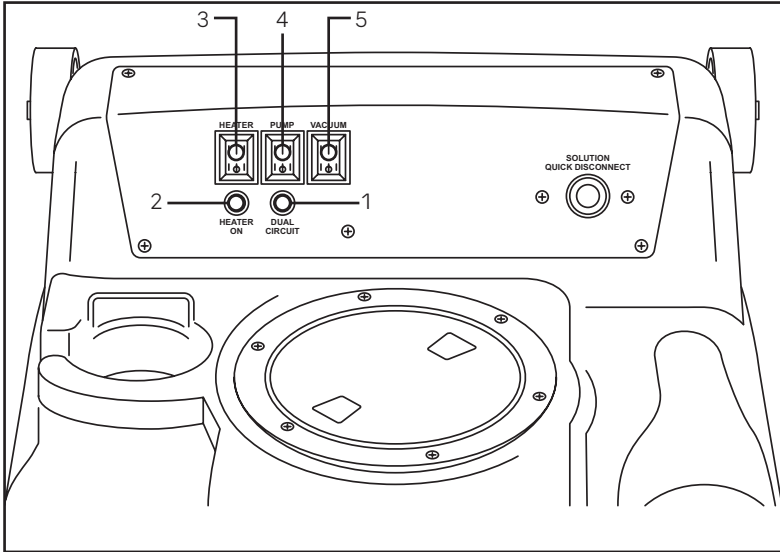

Fig. 1
3. Plug the other end of each extension cord into a separate grounded 15 amp wall socket circuit. When this is accomplished, the green indicator light (#1 Fig.1) will be lit.
5. Turn the heater switch (#3 Fig. 1) to the "ON" position. The orange indicator light (#2 Fig. 1) is on any time the heater is operating.
6. Turn the pump switch (#4 Fig. 1) to the "ON" position.
7. Turn the vacuum switch (#5 Fig. 1) to the "ON" position to begin cleaning.